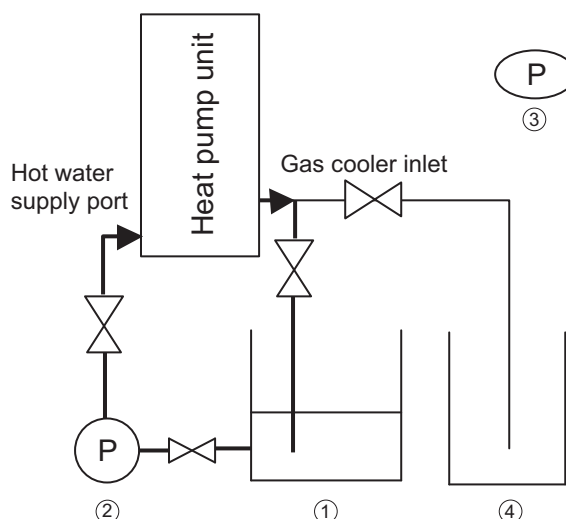

Figure 3 Cleaning water circuit
- (2) Remove the water inlet pipe ② by removing the saddle ③ and quick fastener (for straight pipe) ④.
- (3) Remove the gas cooler inlet pipe ⑥ by removing the quick fastener ⑤ (for reduced pipe).
- (4) Install the pipe as shown below, using a quick fastener ⑤ (for reduced pipe).
Set up the cleaning water circuit as shown in Figure 3. Numbers ① through ④ in the figure indicate the following items.
- ① Container (for cleaning)
- ② Pump
- ③ Submersible pump (placed in the container ① for exhaust water)
- ④ Container for exhaust water (also used to temporarily drain out cleaning solution when it starts foaming.)